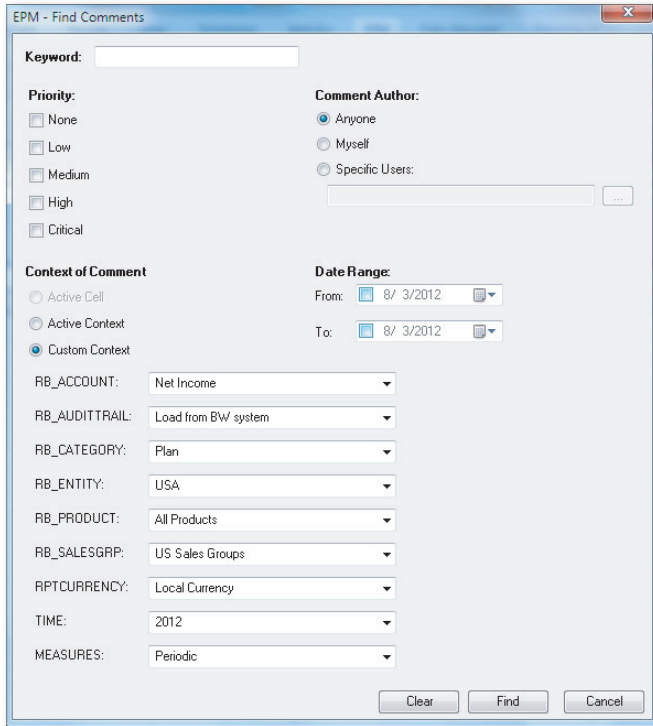

Figure 7.11 Viewing a Comment—Part A
2. The dialog box **EPM - FIND COMMENTS** is displayed (Figure 7.11). You can search for comments based on selections defined here.